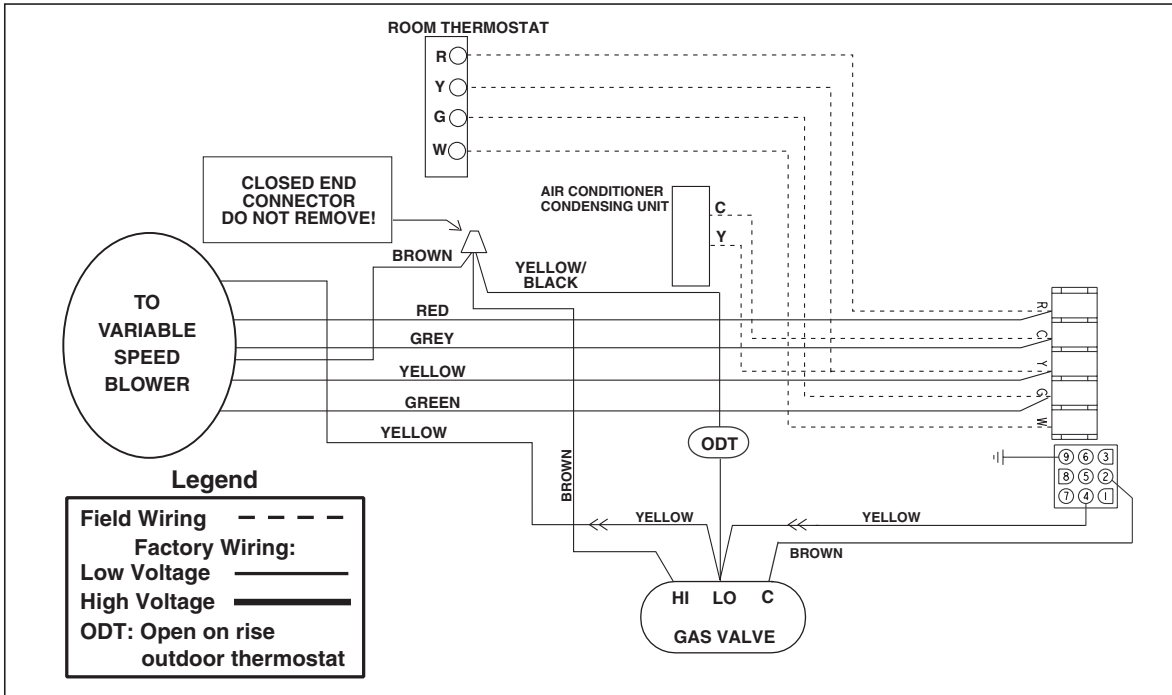

Figure 23. Outdoor Ambient Dependent
4. *Outdoor ambient dependent configuration* – For this installation, the high and low terminals are connected in parallel with an outdoor thermostat (open on rise style) in series with the high terminal of the gas valve (See Figure 23). **CAUTION:** DO NOT CONNECT W2 from thermostat to the furnace wiring when